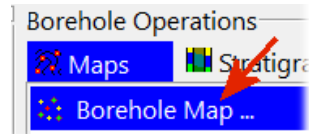

Figure 51
- Select the *Borehole Operations / Maps / Borehole Map* option (Figure 51).